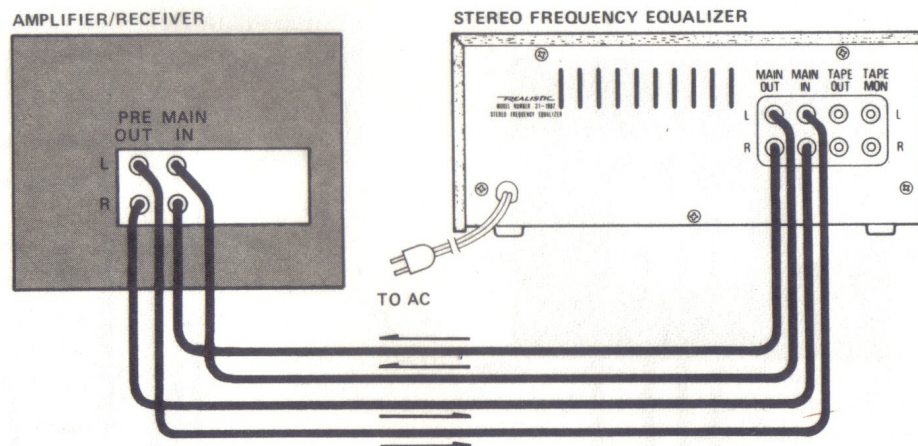

Figure 1A
If your audio system has a Pre-amplifier separate from the Power Amplifier, connect the Frequency Equalizer between the two, observing the correct channel notations. The Equalizer tape **MONITOR** switch must be in the "out" position (button extended). Make connections as shown in Figure 1A.
- Make connections as shown in Figure 1A, 1B, 2A or 2B